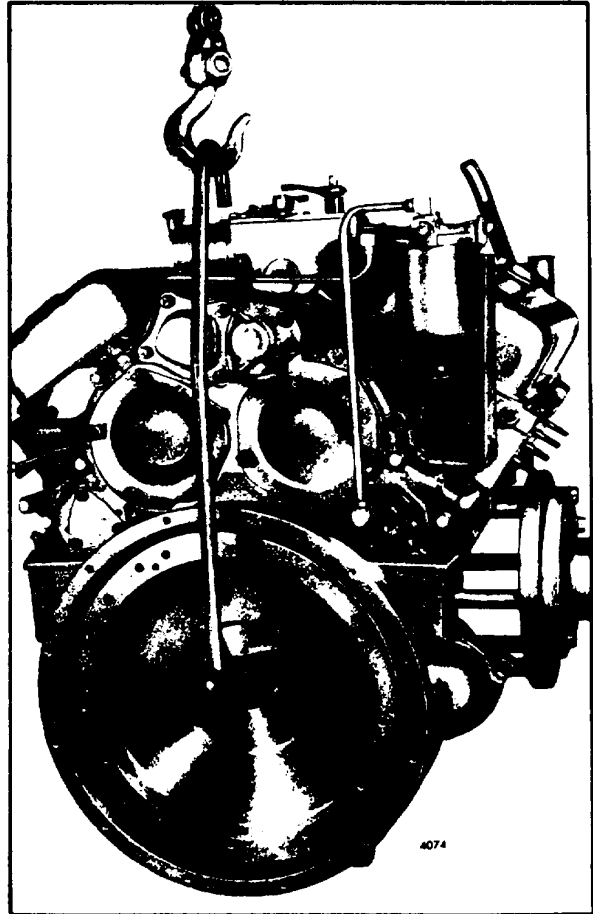

Fig. 1. Removing Flywheel with Tool J 6361 01
- b. Attach flywheel lifting tool J 6361-01 to the flywheel with two 3/8" -16 bolts of suitable length as shown in Fig. 1.